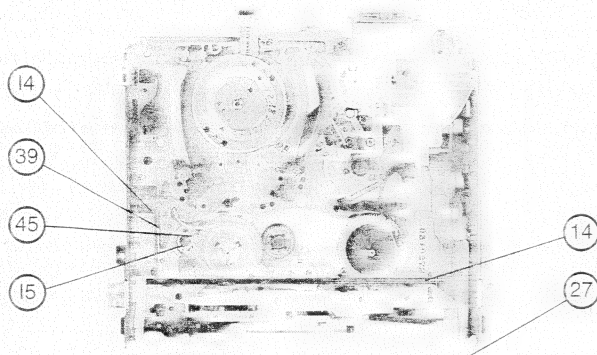

fig. 7
- Den Hebel der Kassettenträgerklappe (27) einsetzen, Abb. 7.
- Whilst holding the levers, gently push the cassette holder back, so that the back pins go into runners as shown in figure 7.
- Position the lever of the cassette holder door as shown in figure 7.
(Abb. 7 und 8)
(fig. 7 and 8)